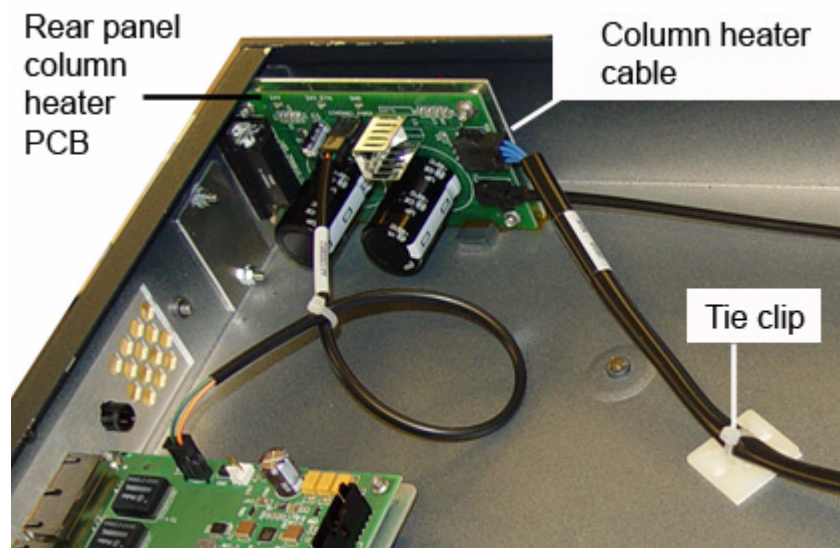

Figure 5 - Column Heater Cable Connector on Rear Panel PCB
4. Remove the tie clips securing the column heater cable to the chassis floor (Figure 5).
5. Disconnect the column heater cable from the rear panel column heater PCB (Figure 5).